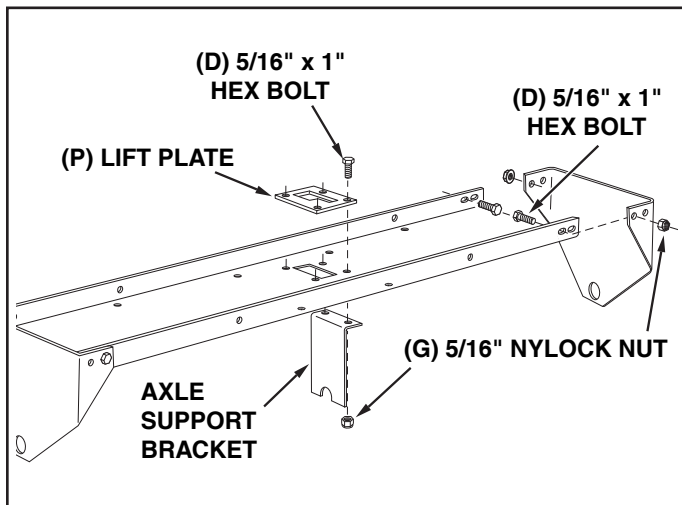

FIGURE 1 FRONT VIEW
1. Assemble the end plates to the **inside** slots at each end of the tray using two 5/16" x 1" hex bolts (D) and 5/16" nylock nuts (G) per end plate. **Do not tighten yet.** See figure 1.
2. Assemble the lift plate (S) and the axle support bracket to the tray using four 5/16" x 1" hex bolts (D) and 5/16" nylock nuts (G). **Do not tighten yet.** See figure 1.
13. Square up the axle support bracket with the tray. **Tighten** the four bolts and nuts assembled in figure 1 that fasten the axle support bracket and lift plate to the center of the tray.